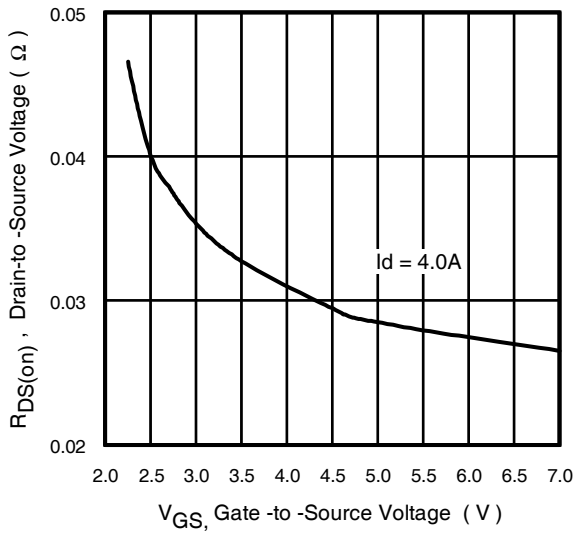

Fig 11. On-Resistance Vs. Gate Voltage
① Repetitive rating; pulse width limited by max. junction temperature. (See fig. 11)
② Pulse width $\leq 300\mu s$; duty cycle $\leq 2\%$.
③ Surface mounted on FR-4 board, $t \leq 5\text{sec}$.